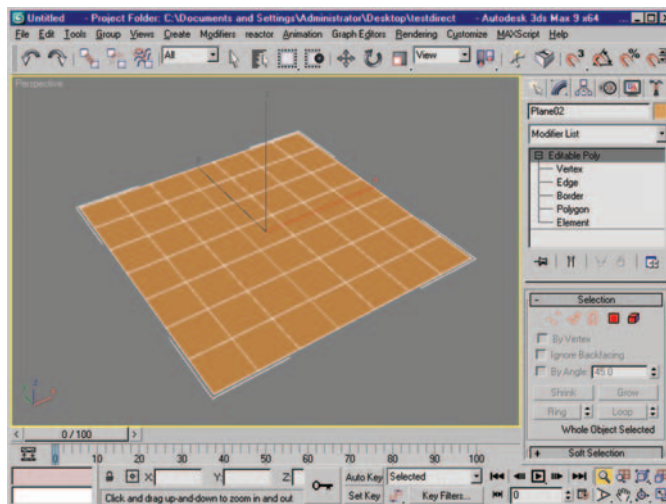

Figure 6.46 *A 7×7 -segment plane object converted to an Editable Poly object.*
1. Activate the top viewport, and create a plane object with seven segments in each direction (Figure 6.46).